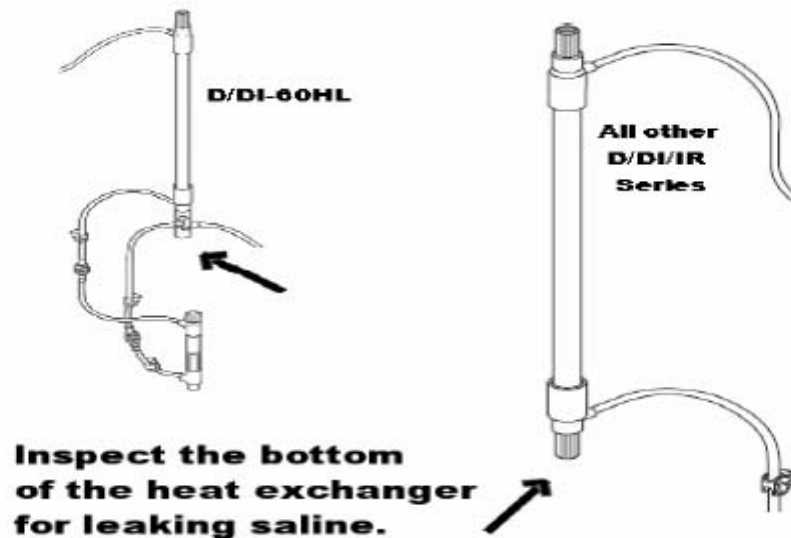

Figure 4: Inspect the heat exchanger for leaking saline.
- 4.0 Monitor the bottom of the heat exchanger for leaking droplets of saline for at least 20 seconds according to Figure 4 below. For D/DI-60 Disposables, monitor the bottom of the plastic manifold at the bottom of the heat exchanger.